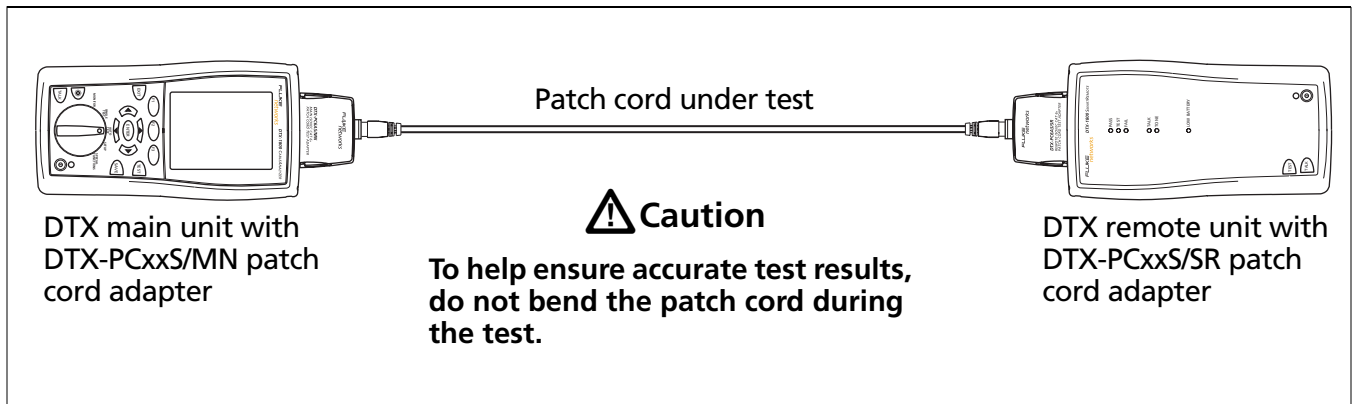

Figure 1. Patch Cord Test Connections
- 1 Connect the patch cord to be tested to the main and remote testers, as shown in Figure 1.